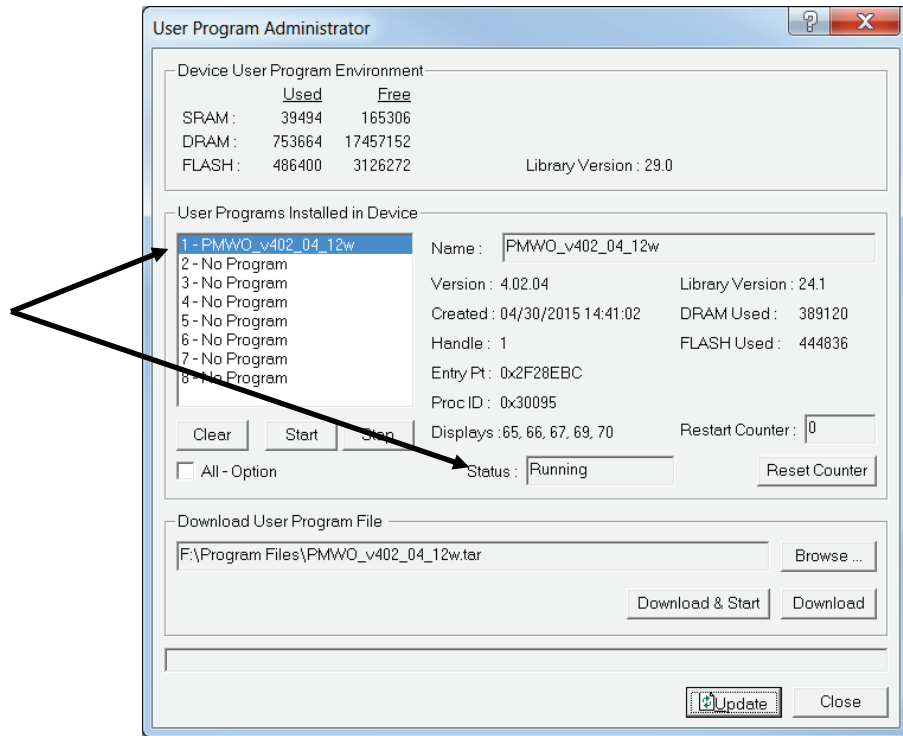

Figure 11. User Program Administrator
10. Click **OK**. The User Program Administrator screen displays (see *Figure 11*). Note that: